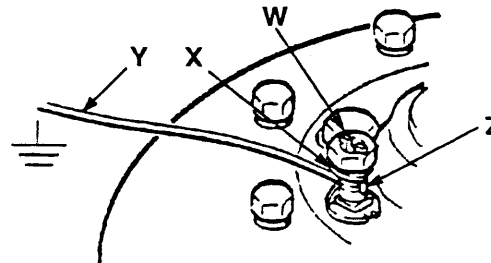

Fig 1
1. *Pump*: use a ground wire and clamp. See Fig 1.
To ground the pump, loosen the grounding lug locknut (W) and washer (X). Insert one end of a 12 ga (1.5 mm2) minimum ground wire (Y) into the slot in lug (Z) and tighten the locknut securely. See Fig 1. Connect the other end of the wire to a true earth ground. See the ACCESSORIES section to order a ground wire and clamp.